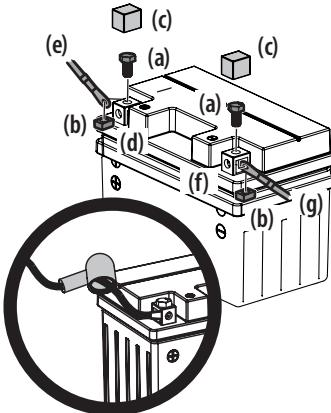

Figure 13
1. Remove the factory installed hex screws (a) and square nuts (b) located either on the end of the wiring harness or in the bag with this manual. Retain the hardware for later instructions. See Figure 13.
2. Remove the plastic cover (c), if present, from the positive battery terminal (d) and attach the red cable (e) to the positive battery terminal (d) with one of the hex screws (a) and square nuts (b), from Step 1. Use a Philips screw driver. See Figure 13.
3. Position the red rubber boot over the positive battery terminal to help protect it from corrosion. See inset in Figure 13.
4. Remove the plastic cover (c), if present, from the negative battery terminal (f) and attach the black cable (g) to the negative battery terminal (f) with the remaining hex screw (a) and square nut (b). See Figure 13.